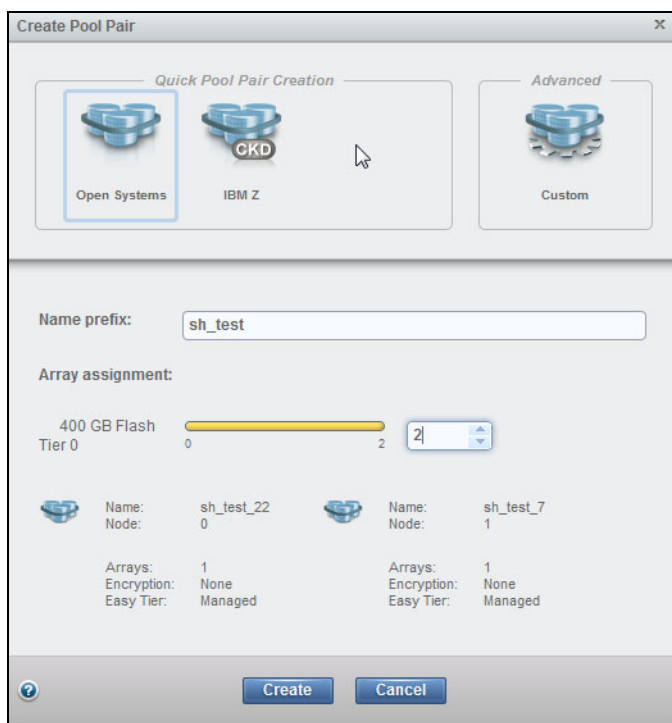

Figure 11-42 Create FB pool pair and assign arrays to a pool pair
4. Specify the pool pair parameters, as shown in Figure 11-42:
- **Storage type:** Ensure that **Open Systems (FB)** is selected.
4. Specify the pool pair parameters, as shown in Figure 11-42 on page 312:
- Storage type: Ensure that **Open Systems (FB)** is selected.